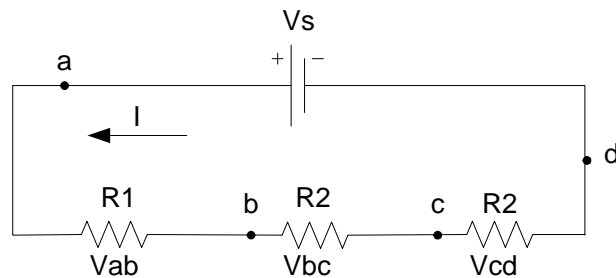

Figure 2.9: Series circuit for voltage measurement.
1. Construct the series circuit shown in Figures 2.9 & 2.10 on a protoboard four times using each set of resistors shown in Table 2.3. For example, the first circuit should have three 1 k Ω resistors.